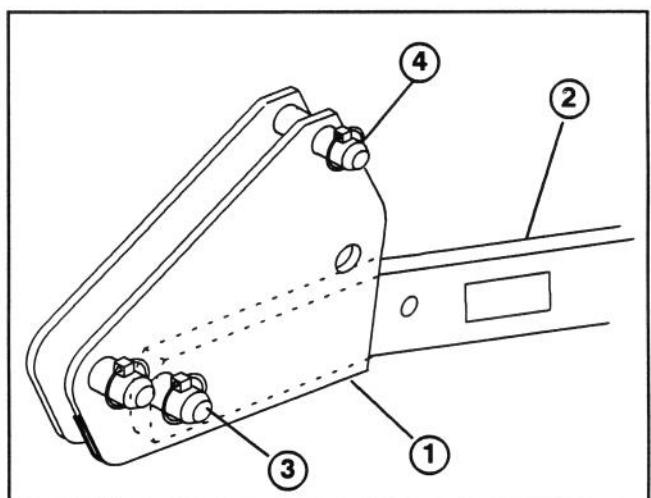

Figure 3
4. Secure lift arms in holsters with mounting pins and lynch pins (included with holster hitch kit), as shown in figure 3.
5. Install rear holster locking pins in storage position, as shown in figure 3.